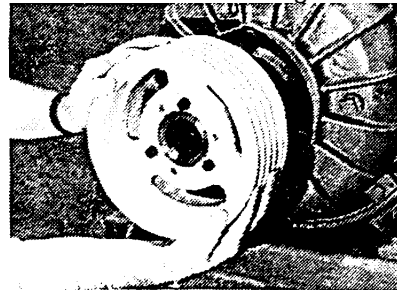

Fig. 3
- 3 If following the REVERSE MOUNTING procedure, assemble the bushing loosely into the mating part and insert the cap screws through the drilled holes in the mating part and thread them into the bushing; see Fig. 2. Place the assembly and its key on the shaft Bushing-NOT made of Sinsteel may require slight wedging to allow a slip fit into position. To wedge, insert a screwdriver into the sawcut in the bushing flange. **DO NOT** wedge Sinsteel bushings, as this may damage them. Position the assembly for axial alignment of the drive. See Fig. 3.